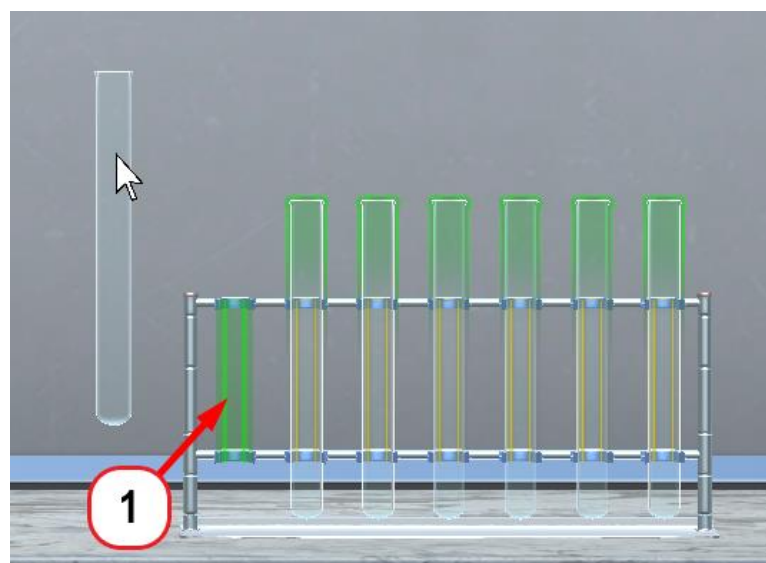

Figure 62 – The green interaction zone of the stand for placing a test tub
To remove a test tube from the stand, press and hold it with the left mouse button, drag it to the desired location, and release. To place a test tube in the stand, press and hold it with the left mouse button, drag the pointer to the stand's green interaction zone (1) (see 7.5.1 Object Interaction zones) and release (Figure 62).